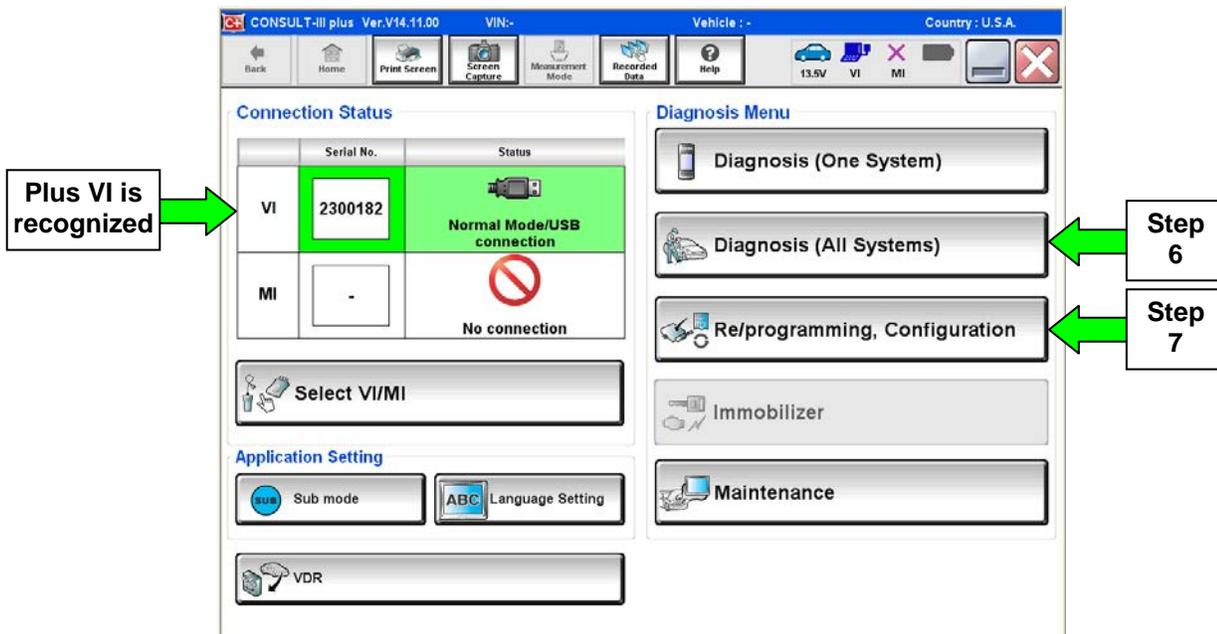

Figure 1
7. Select the **Home** button, select **YES** to return to the screen shown in Figure 1, and then select **Re/programming, Configuration**.